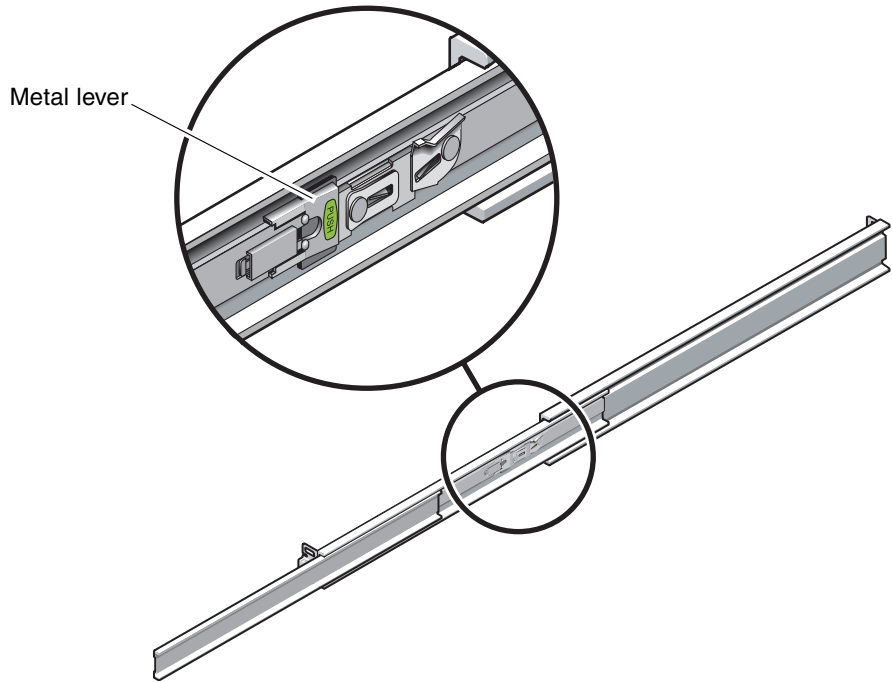

FIGURE 2-26 Unlocking the Slide Rail Lever Stops
5. When the server is fully extended out, release the slide rail lever stops (FIGURE 2-26).